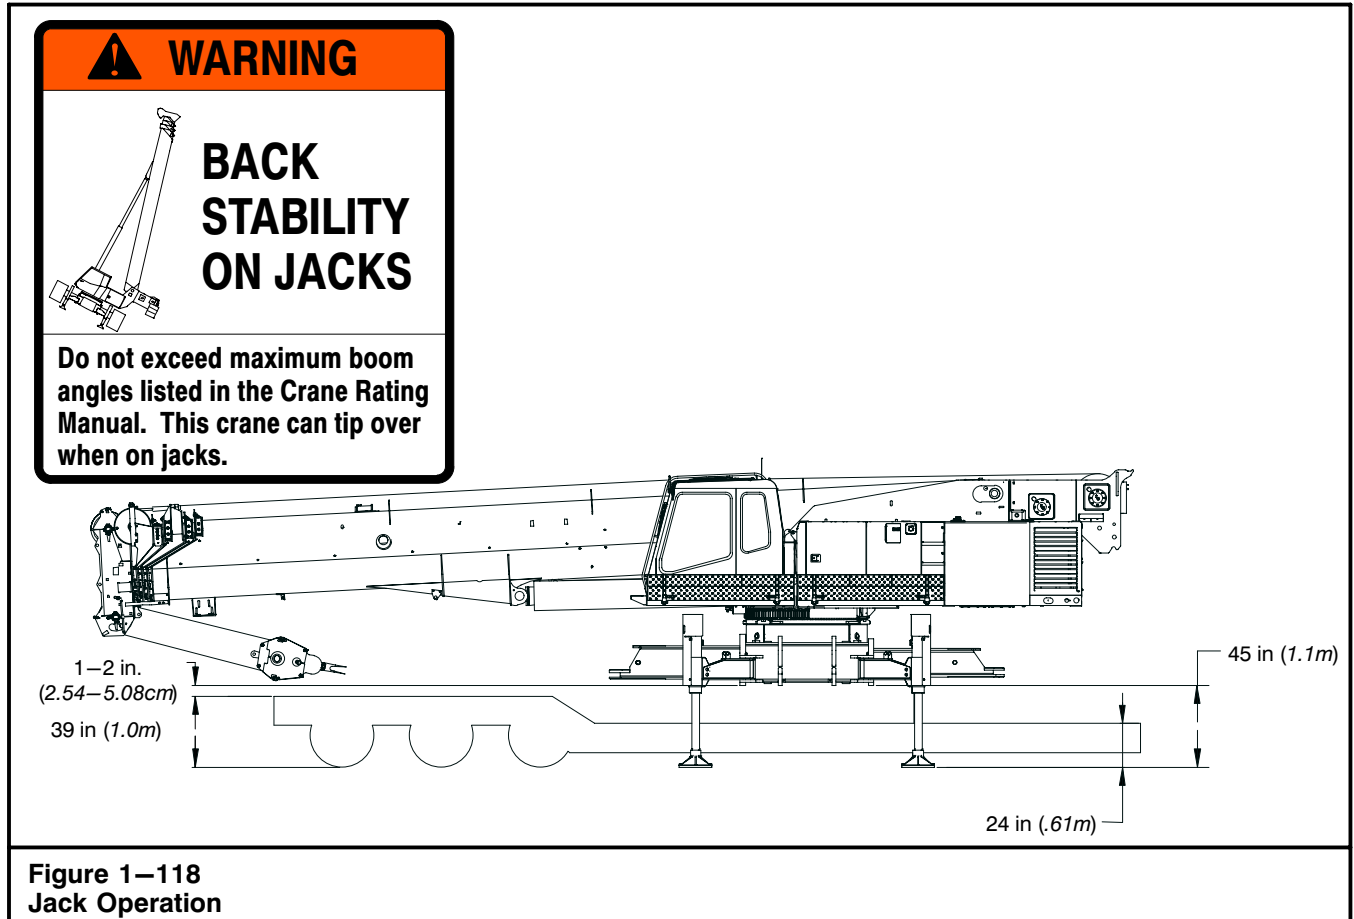

Figure 1-118
5. Position the lifting jacks and beams to the self-assembly position. Refer to "Lifting Jack Operation" in this Section of this Operator's Manual and Figure 1-118.
8. Raise the crane on jacks until there is enough clearance (approximately 1–2 in. [2.54–5.08cm]) between the deck of the transport vehicle and the bottom of the lower frame to allow the transport vehicle to be driven from under the crane. Refer to "Lifting Jack Operation" in this Section of this Operator's Manual and Figure 1-118.